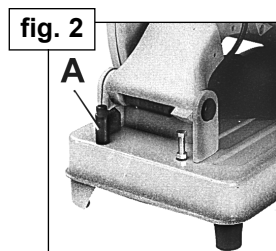

fig. 2
**MG214/110V - fig. 2**
- 3.2. To clamp the motor head in the (down) transport position turn the locking plate inward (fig. 2.A).